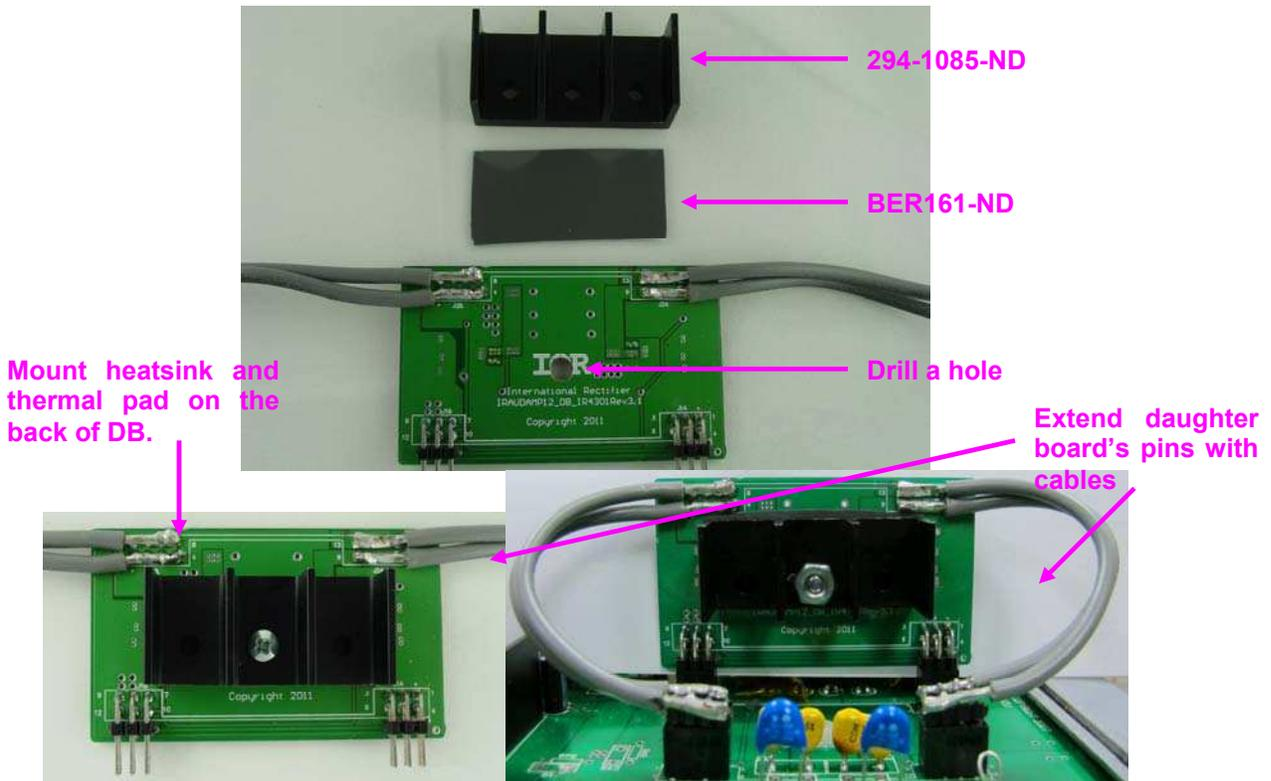

Figure 20
- 3, Extend daughter board's pins with cables as Figure20.